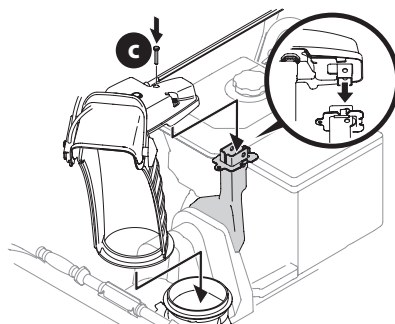

Figure 15
3. Place chute assembly onto chute base and ensure chute control rod is positioned above lower handle. Install hex screw (c) removed in Step 1, but do not secure with wing nut (or locknut if equipped) at this time (Figure 15).